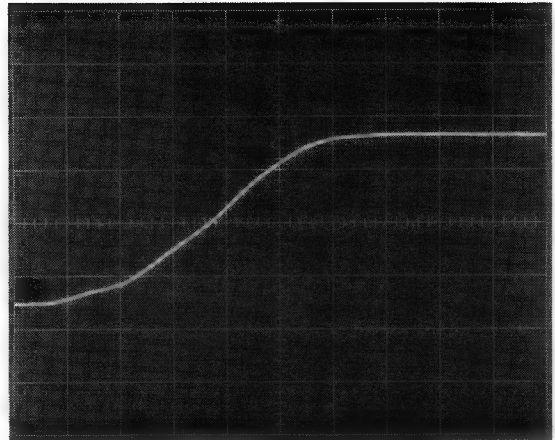

Fig. VII-1 Measuring rise times
- Position the display to the centre of the screen by means of RV11A, POSITION (see Fig. VII-1).